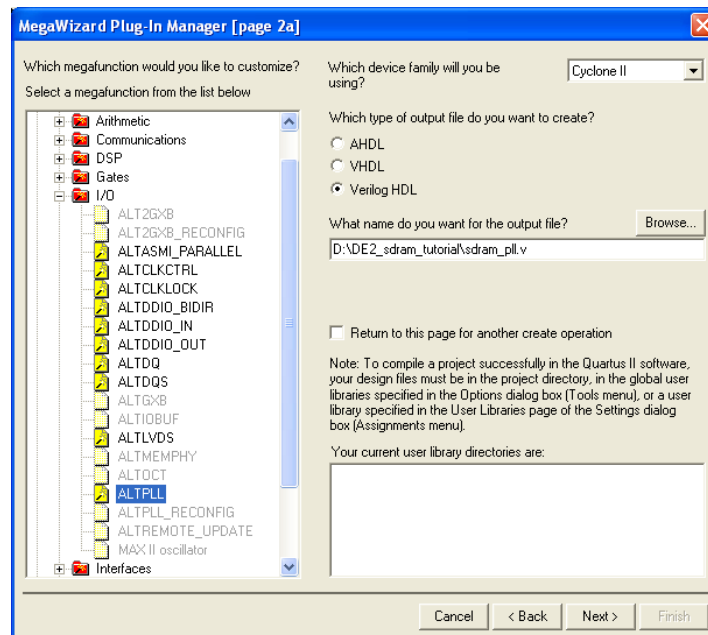

Figure 12. Select the megafunction and name the output file.
2. In the window in Figure 12, specify that Cyclone II is the device family used and that the circuit should be defined in Verilog HDL. Also, specify that the generated output (Verilog) file should be called *sdram_pll.v*. From the list of megafunctions in the left box select I/O > ALTPLL. Click Next.